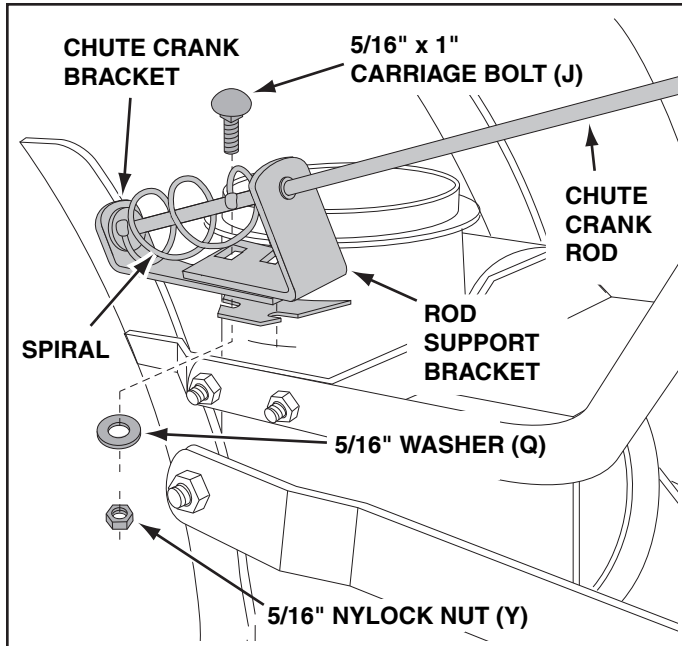
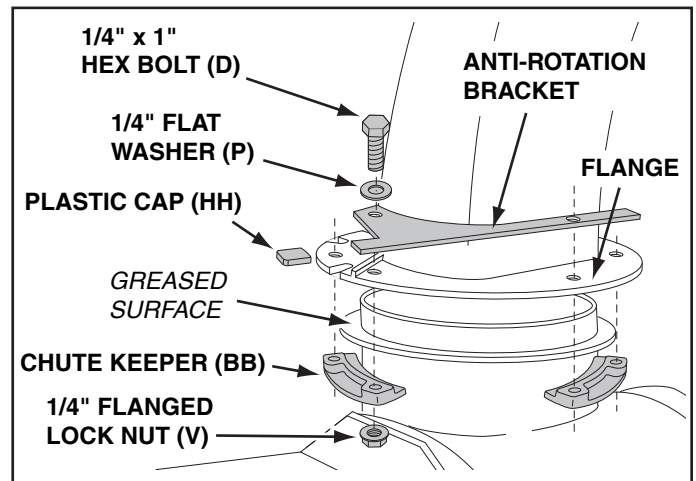

FIGURE 51 LEFT SIDE VIEW
FIGURE 52 RIGHT SIDE VIEW
STEP 52: (SEE FIGURE 51)
- Attach the chute crank rod assembly brackets to the plastic bracket on the left side of the discharge housing. Align the chute crank bracket beneath the rod support bracket and assemble both to the plastic bracket using two 5/16" x 1" carriage bolts (J), 5/16" washers (Q) and 5/16" Nylock nuts (Y). **Do not tighten yet.**
STEP 53: (SEE FIGURE 52)
- Place the discharge chute (facing forward) onto the ring. Place the anti-rotation bracket on top of the chute flange, aligning it with the holes on the right hand side of the flange. Attach the three chute keepers (BB) (right side up as shown) to the bottom of the flange using six 1/4" x 1" hex bolts (D), 1/4" flat washers (P) and 1/4" flanged lock nuts (V). **Tighten carefully** so that the nuts are snug but do not dig into the plastic chute keepers.
- Place the plastic cap (HH) onto the short end of the anti-rotation bracket.
- Position the crank rod spiral (see figure 51) so that it does not rub against the bottoms of the notches in the chute flange. **Tighten** the nuts.
- Secure the control cables to the crank rod support tube using a nylon tie (II).